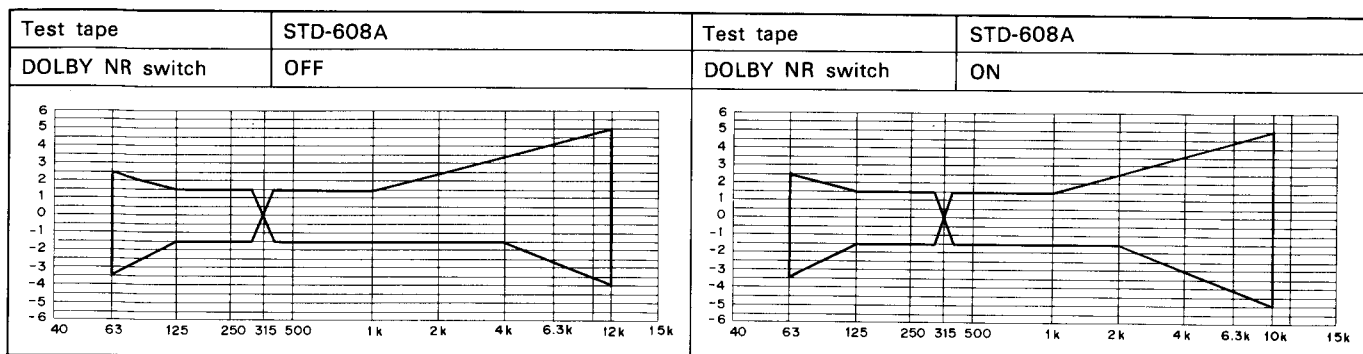

Fig. 12-8 Recording & playback frequency response tolerance zone (NORM)
• Change the test tape and the DOLBY NR switch position and check that the frequency response zone indicated in Fig. 12-8, 9 is satisfied.